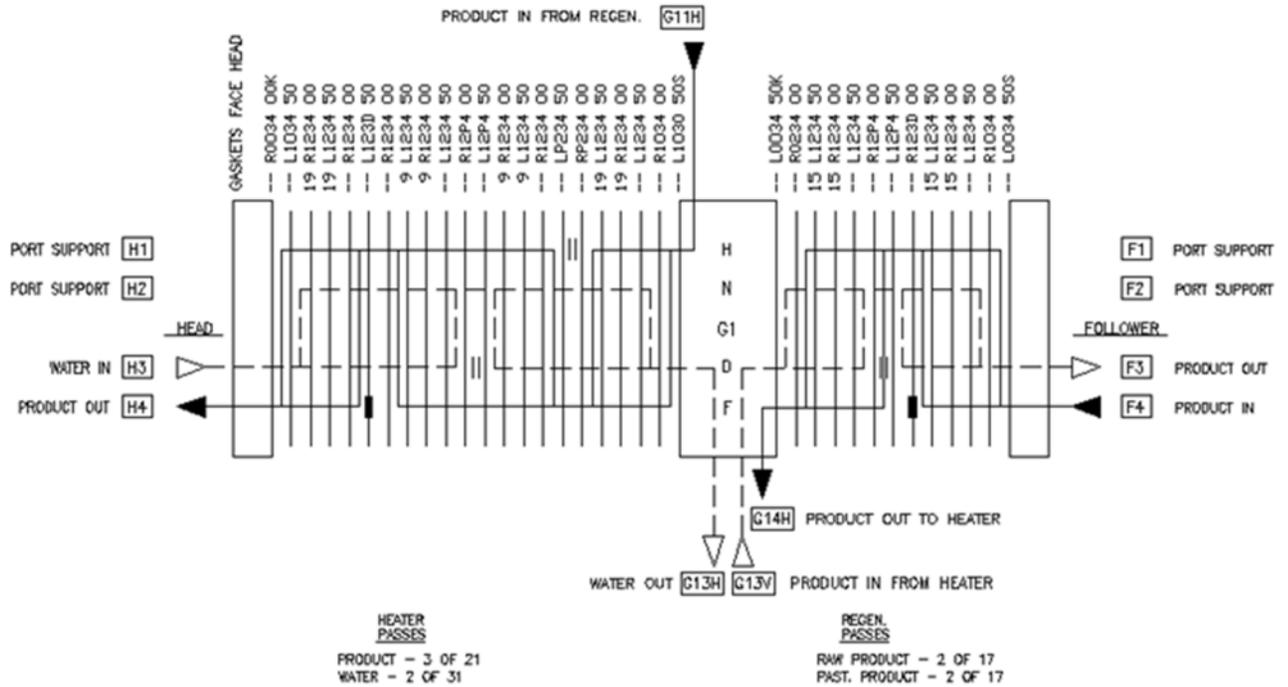

Figure 27: Two-section arrangement example
Figure 27 shows a two-section arrangement with connections on the head, follower, and connector grid. It also shows the use of the special codes to indicate drain plates (D), support pads (P) and seal plates (S) typical for certain plates.